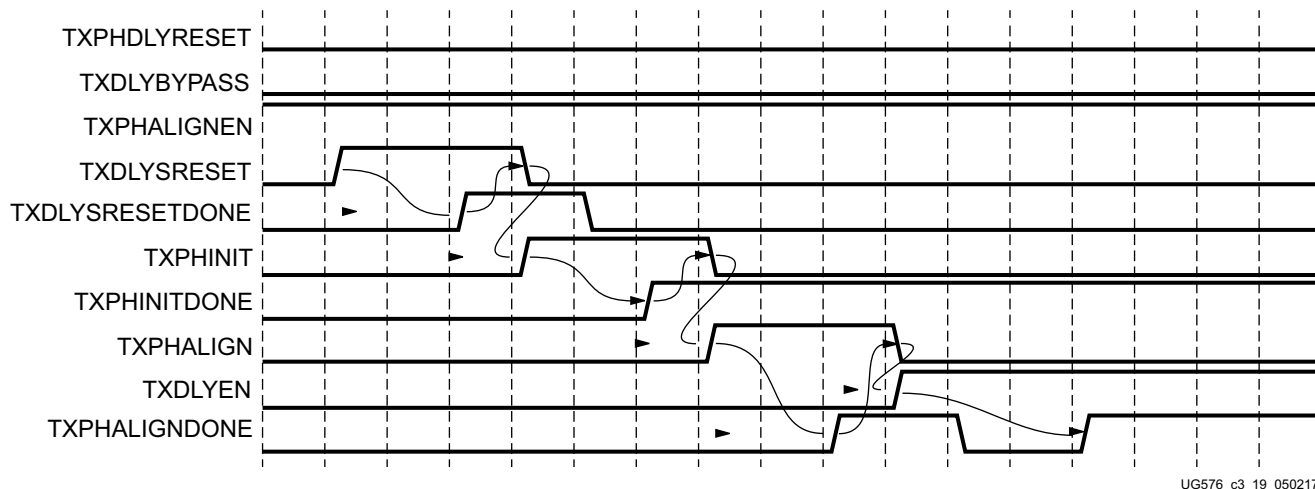

Figure 3-19: TX Buffer Bypass Example—Single-Lane Manual Mode
Figure 3-19 shows the required steps to perform the manual TX phase alignment and use the TX delay alignment to adjust TXUSRCLK to compensate for temperature and voltage variations.
Notes relevant to Figure 3-19:
1. The sequence of events in Figure 3-19 is not drawn to scale.